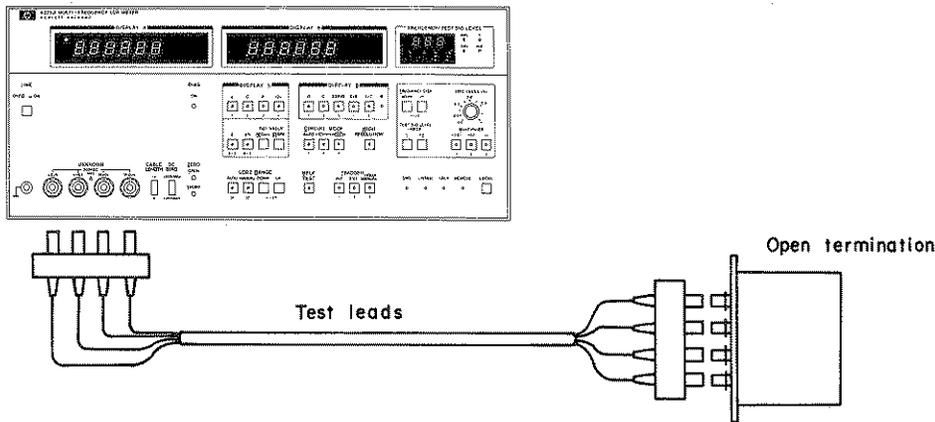

Figure 5-11. 10MHz CMR Amplifier and Range Resistor phase Adjustment Setup.
2. Connect 1m test leads to 4275A UNKNOWN terminals and to "Open" termination (of the 16074A Standard Resistor Set) as illustrated in Figure 5-11.